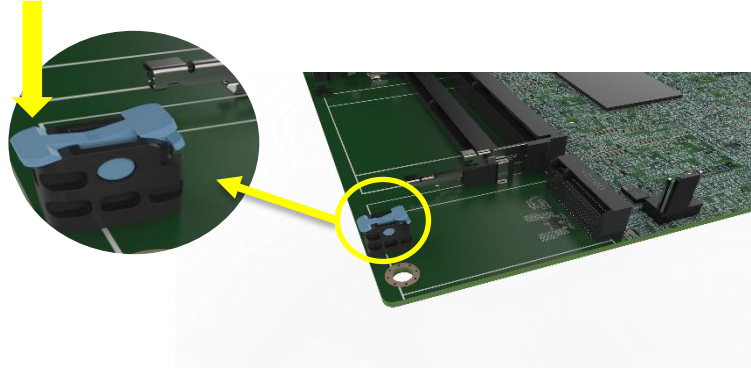

Figure 4-3: Press the Retainer
Step 1: Press the retainer down as shown below. (See **Figure 4-3**)
Step 6: If you want to remove the M.2 module, you should press the retainer down as described in Step 1 to release the M.2 module. (See **Figure 4-3**)